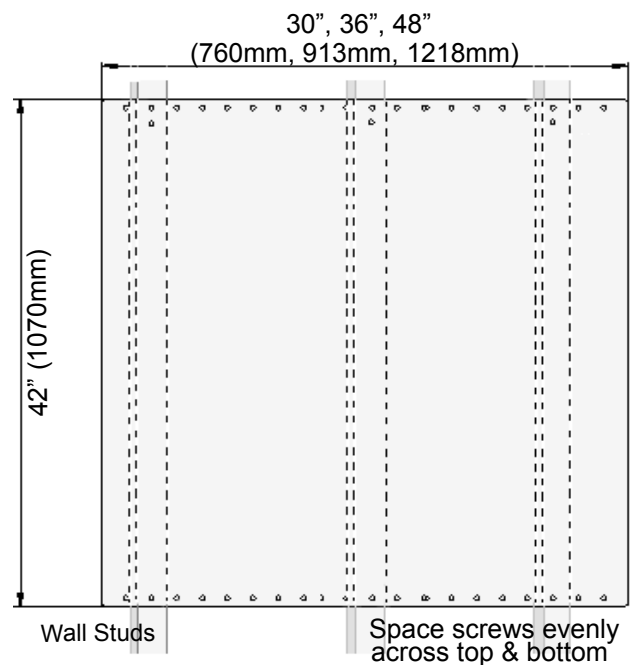

FIGURE 14: BACKSPLASH INSTALLATION
3. Per each wall stud, use (2) of the provided screws to secure both the top and bottom of the backsplash (see *Figure 14*).